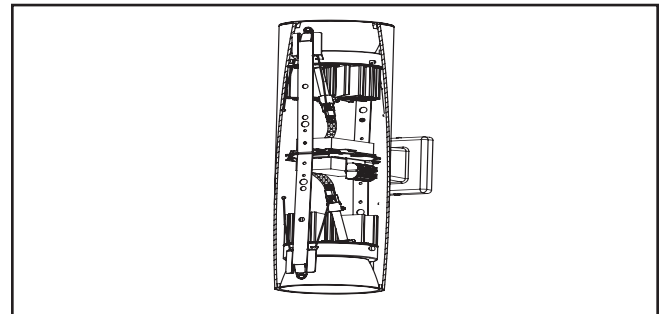

Figure 8.
- Install the LED Engine and trim assembly by inserting the torsion springs into the spring receivers located inside the housing (Figure 8.).